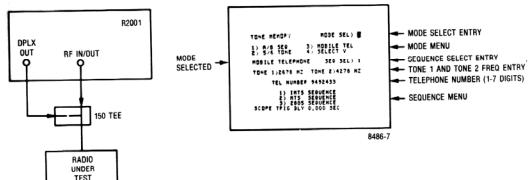

Figure 4-11. Test Setup for Mobile Telephone Test with CRT Display
- Test Mobile Telephone Receiver and Supervisory Decoder (Figure 4-11).
- Connect the system to be tested as shown in figure 4-11 and set the MODULATION switch as required to test the mobile telephone receiver and supervisory decoder.